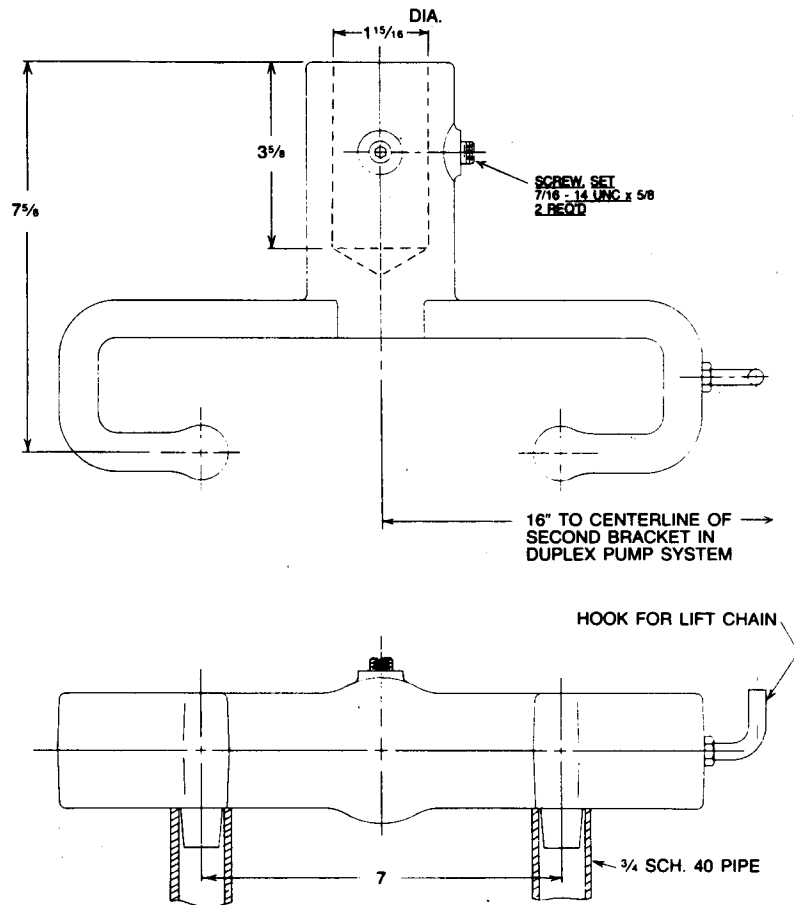

Fig. 5
8. If the top rail guide plate can not be attached to the hatch cover frame, a special rail bracket (Fig. 5) can be furnished for mounting directly to a pipe cemented in the basin wall. This bracket is set and aligned with discharge base the same as described for the rail guide plate attached to the frame.